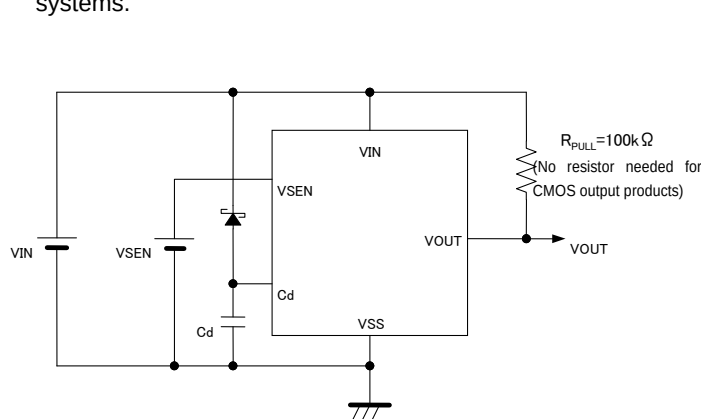

Figure 3: Circuit example with the delay capacitance pin (C_d) connected to a Schottky barrier diode
* The release delay time values above are calculated by using the formula (2).
6. When there is a possibility of which the power supply input pin voltage falls rapidly (e.g.: 6.0V to 0V) at release operation with the delay capacitance pin (C_d) connected to a capacitor, use a Schottky barrier diode connected between the V_{IN} pin and the C_d pin as the Figure 3 shown below.